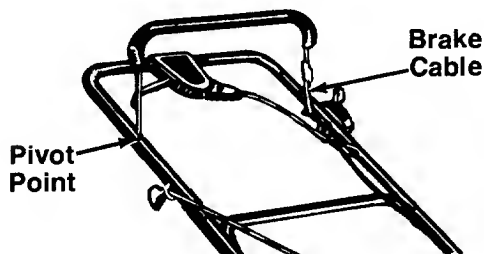

FIGURE 17.
**Blade Control**—Lubricate the pivot points on the blade control handle and the brake cable at least once a season with light oil. See figure 17. The blade control must operate freely in both directions.